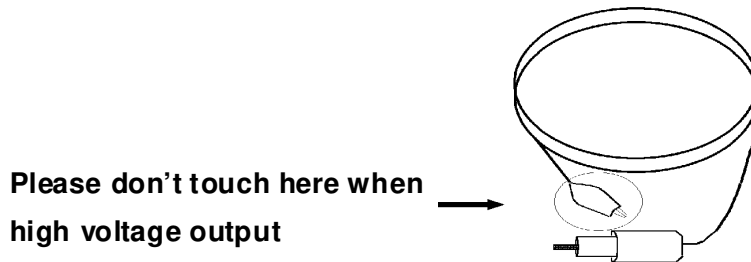

Figure 3-4
- ⚡ CAUTION** When the main unit is under test status, please don't touch alligator clipper on test cable. Because the insulation of plastic layer is not enough, touch it may cause hazard. As Figure 3-4.